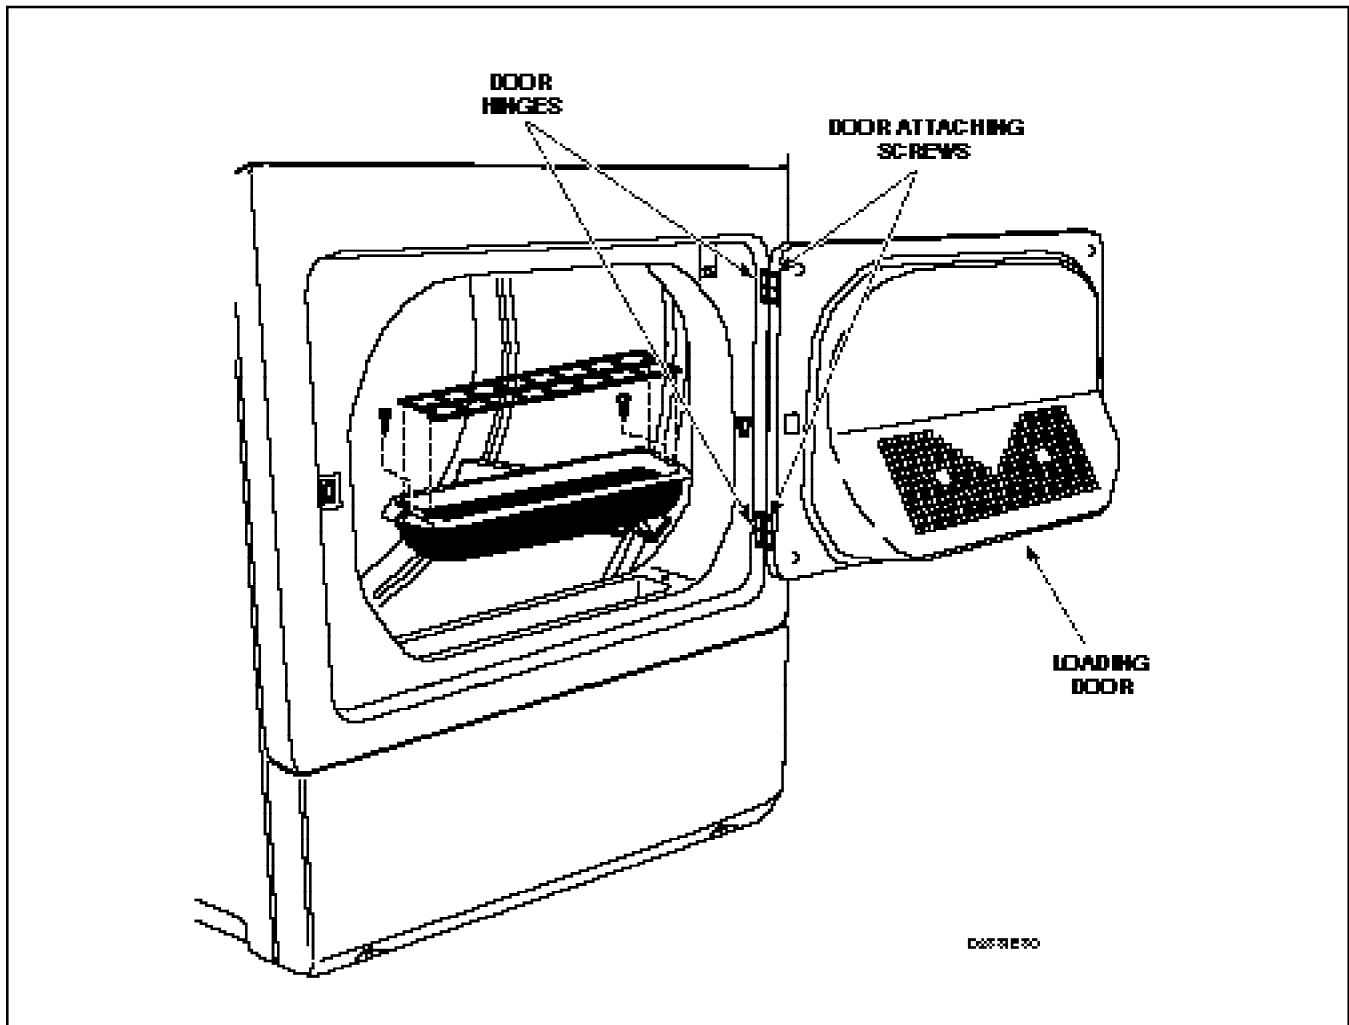

Figure 23
- Open loading door and, while supporting door, remove four screws holding door assembly to hinges, *Figure 23*.
- Remove four screws holding hinges to front panel, *Figure 23*.